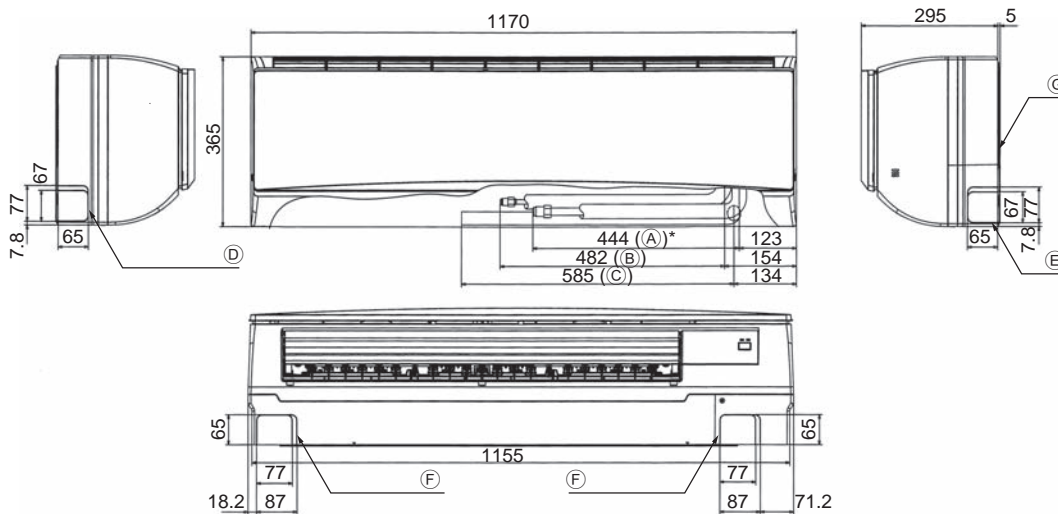

Fig. 4-2
4.3. Positioning refrigerant and drain piping (Fig. 4-2)
- (A) Gas pipe
- (B) Liquid pipe
- (C) Drain hose
- (D) Left-side piping knockout hole
- (E) Right-side piping knockout hole
- (F) Lower piping knockout hole
- (G) Mount board ①